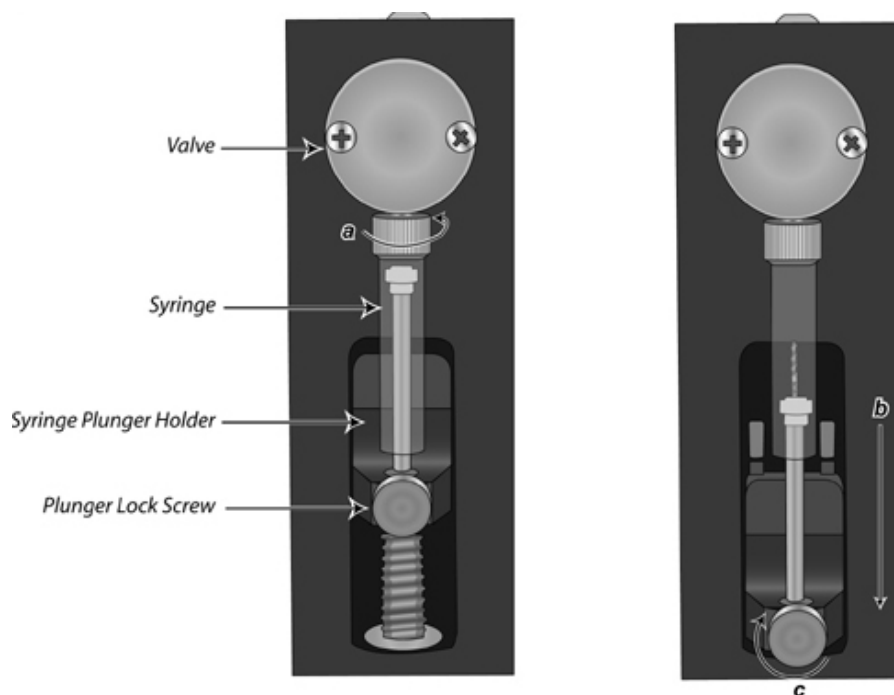

Figure 5–31. Replacing the dispenser syringe
6. To fit the new dispenser syringe, screw the syringe into the valve, pull the syringe plunger down to the plunger holder arm, and screw the syringe into place. Make sure the plunger lock screw is securely tightened (Figure 5–31). Also a 1.0 ml syringe is available on request.
To replace the 3-port valve (Figure 5–30 and Figure 5–32), it is recommended that you contact authorized technical service: